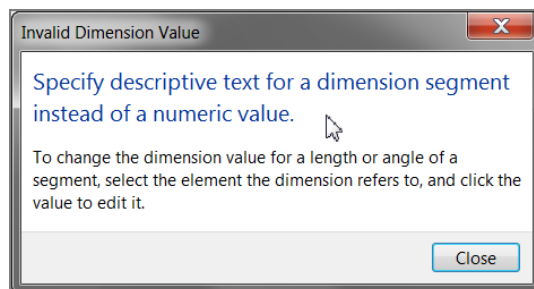

FIGURE 5.42: Any numeric value triggers a warning in Revit. You simply can't type a value over a dimension.
5. You get an Invalid Dimension Value message, as shown in Figure 5.42. Revit won't allow you to do such a foolish thing. Click Close.